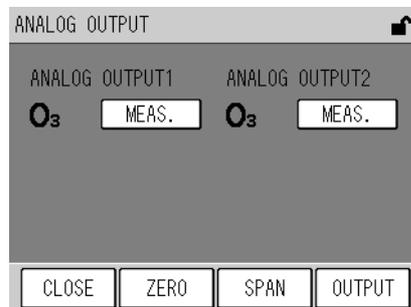

Fig. 56 ANALOG OUTPUT screen
- [ANALOG OUTPUT]: Displays the ANALOG OUTPUT screen (Fig. 56 on page 44).
5. Press the [CLOSE] key to return to the ANALOG OUTPUT screen (Fig. 56 on page 44).